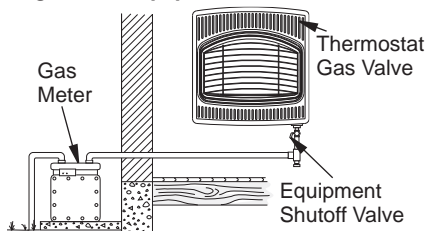

Figure 17 - Checking Gas Joints for Natural Gas
3. Check all joints from gas meter for natural gas or propane/LP supply tank for propane/LP gas, to equipment shutoff valve (see Figure 17 or 18). Apply a noncorrosive leak detection fluid to all joints. Bubbles forming show a leak.
4. Check all joints from equipment shutoff valve to thermostat gas valve (see Figure 17 or 18). Apply a noncorrosive leak detection fluid to all joints. Bubbles forming show a leak.